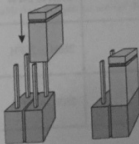

Figure 3-4: Inserting the Jumper Block.
5. Select the settings for the card by placing the jumper blocks on the desired jumpers as shown in Figure 3-4.